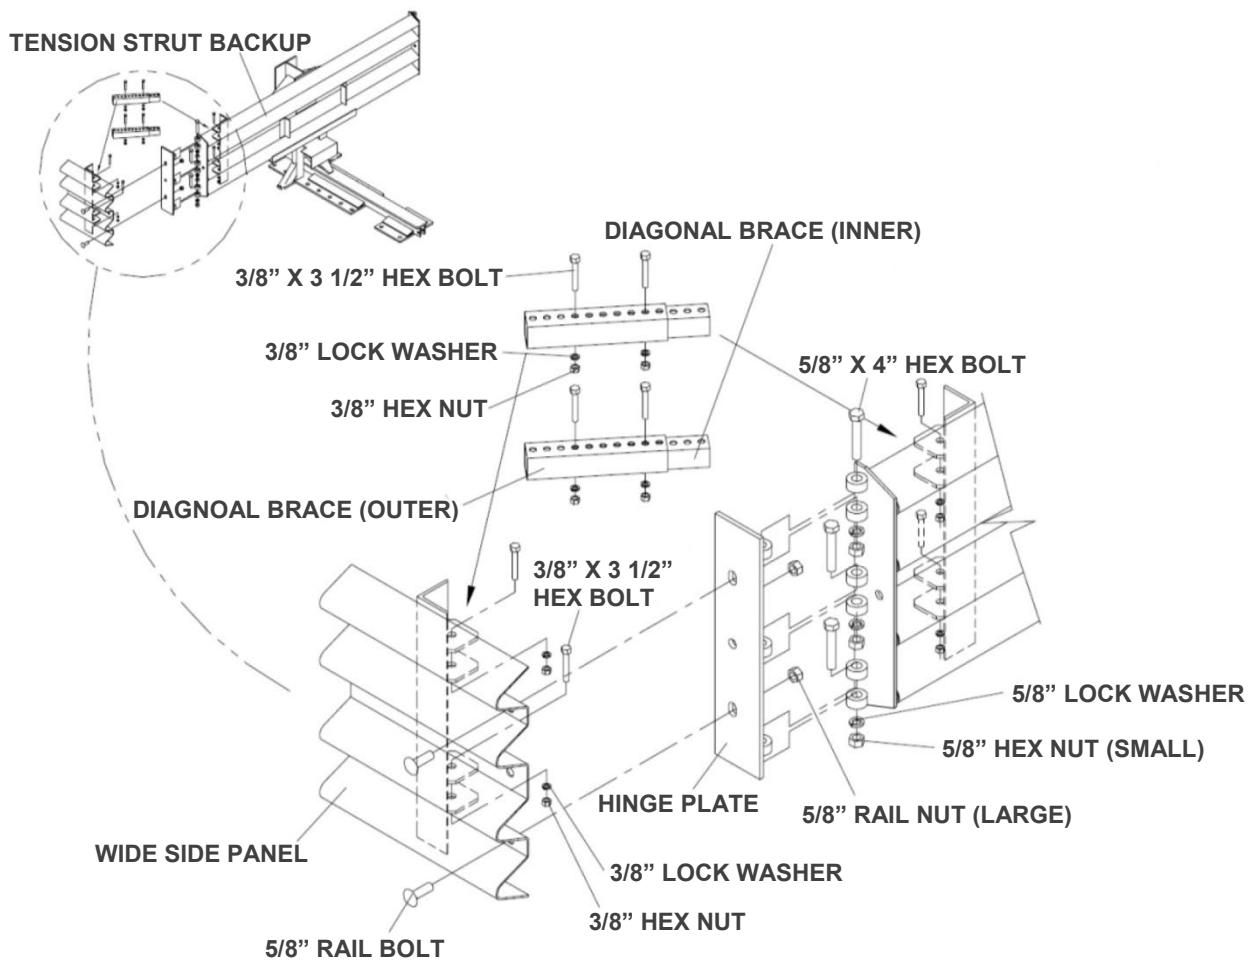

Figure 53
- B. Attach Transition Panel or Side Panel assembly to side of Backup using 5/8" hex bolt, 5/8" lock washer and 5/8" hex nut three places each side of Backup (Figure 53).
- D. Secure each diagonal brace with 3/8" hex bolt, 3/8" lock washer and 3/8" hex nut (two places per brace) as shown in Figure 53.